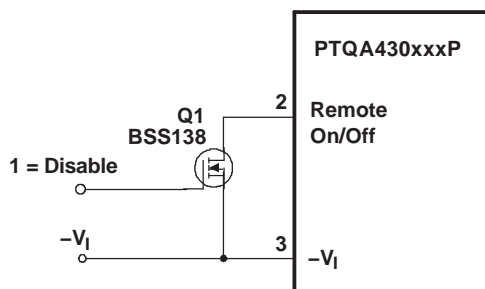
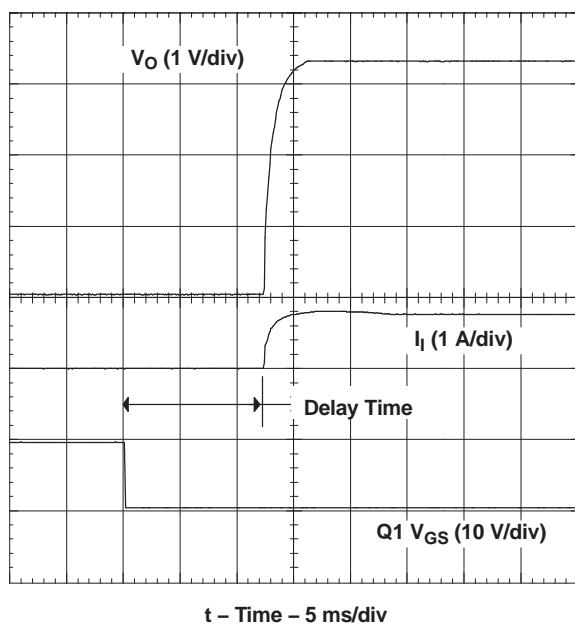

Figure 9. Recommended Control or Remote On/Off Input
Figure 10. Power Up
**Turn-On:** With a valid input source voltage applied, the converter produces a regulated output voltage within 75 ms of the output being enabled. Figure 10 shows the output response of the PTQA430033P following the removal of the logic-low signal from the *Remote On/Off* (pin 2); see Figure 9. This corresponds to the drop in Q1  $V_{GS}$  in Figure 10. Although the rise-time of the output voltage is short (<10 ms), the indicated delay time will vary depending upon the input voltage and the module's internal timing. The waveforms were measured with 48 VDC input voltage, and a 10-A resistive load.